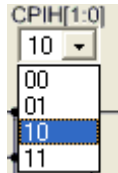

Figure 56
- (1) Click the network by mouse, OP0P can select the specified network.
- (2) Click the network switch by mouse, OP0P can select the specified network.
- (3) Click the mouse, a menu as Figure 56 will appear. Users can select the specified switch network.